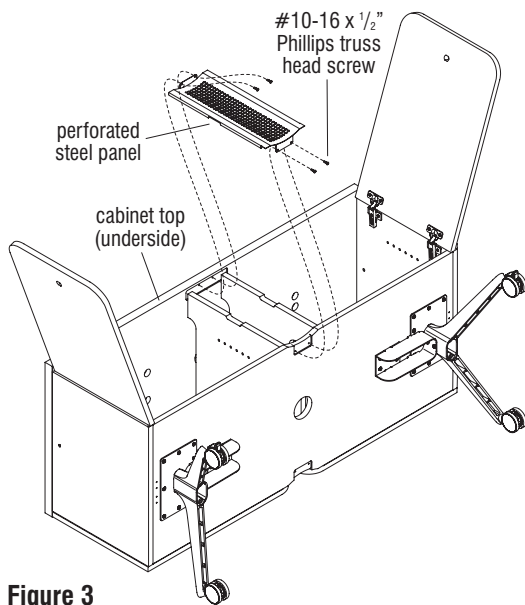

Figure 3
1. Open both doors on the non-ganging side of the storage cabinet. Align the mounting holes on the perforated steel panel flanges with the center mounting holes on the underside of the cabinet top, and at the cabinet bottom then secure using four #10-16 x 1/2" Phillips truss head screws. Repeat this step if the opposite side of the cabinet is non-ganging and requires a perforated steel panel (Figure 3 & Details B & C).